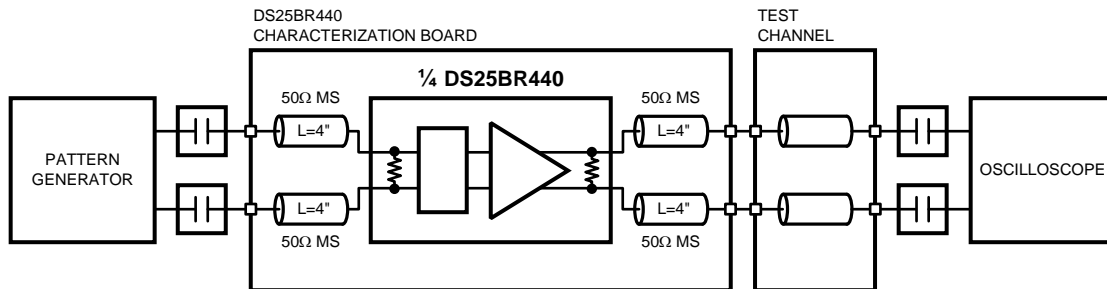
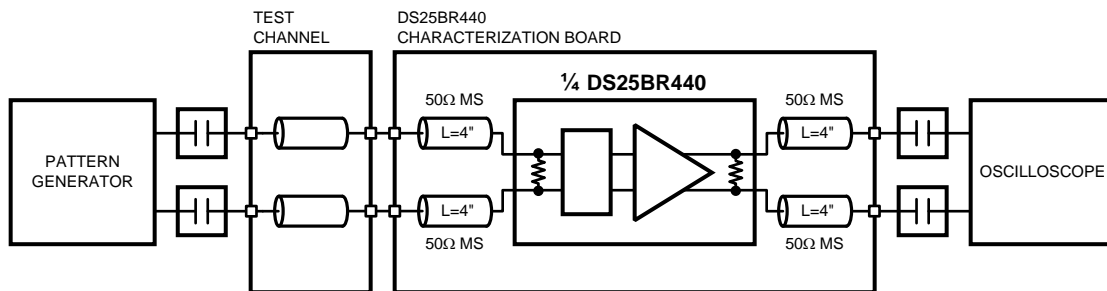
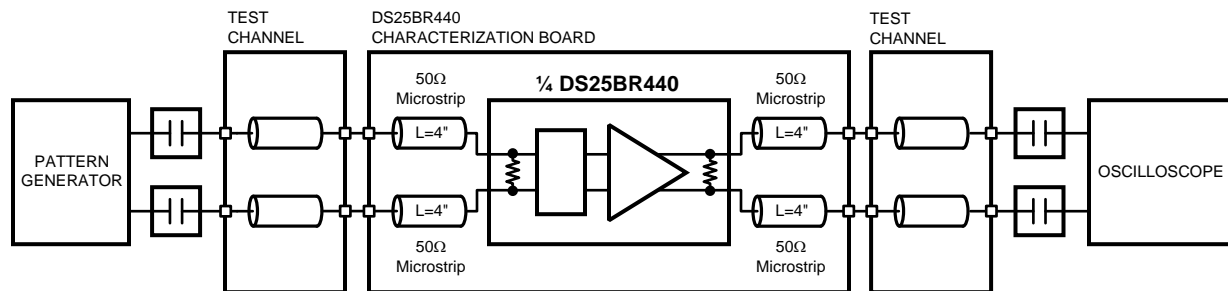
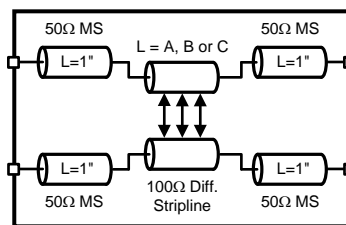

Figure 6. Pre-emphasis Performance Test Circuit
Figure 7. Equalization Performance Test Circuit
Figure 8. Pre-emphasis and Equalization Performance Test Circuit
Figure 9. Test Channel Block Diagram
| JITTER PERFORMANCE WITH EQ = Off, PE = On (3) (Figure 6, Figure 9)  |   |  |            |      |      |             |
| JITTER PERFORMANCE WITH EQ = On, PE = Off (11) (Figure 7, Figure 9) |   |  |            |      |      |             |
| JITTER PERFORMANCE WITH EQ = On, PE = On (11) (Figure 8, Figure 9)  |   |  |            |      |      |             |